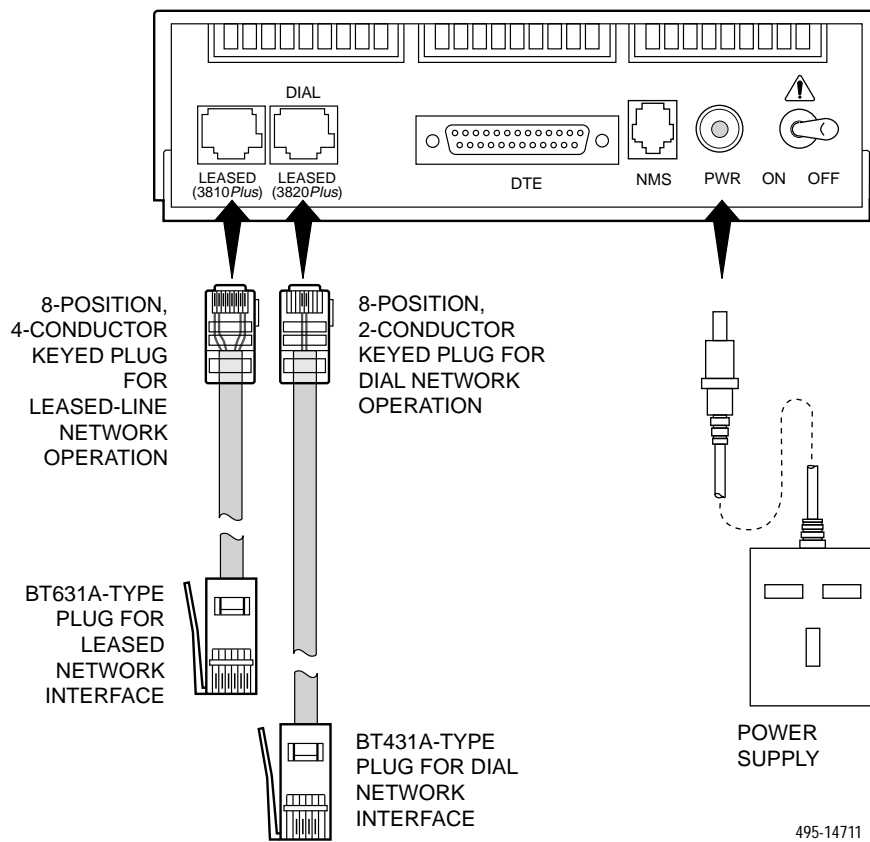

Figure 1. 3810Plus Rear Panel and Power Supply
The power supply used with the 3810*Plus* modem (Figure 1) is designed for an input voltage of 240 Vac ( $\pm 10$  percent), and an input frequency of 50 Hz.
Figure 1 shows how 3810*Plus* modems are connected to certain TELCO jack types using the supplied cables.
1. Insert the 8-position, 4-conductor modular plug into the jack labeled LEASED (3810*Plus*), Figure 1.
1. Insert the 8-position, 2-conductor modular plug into the jack labeled DIAL, Figure 1.
2. Insert the power supply's cylindrical connector into the modem's rear panel power receptacle (Figure 1).